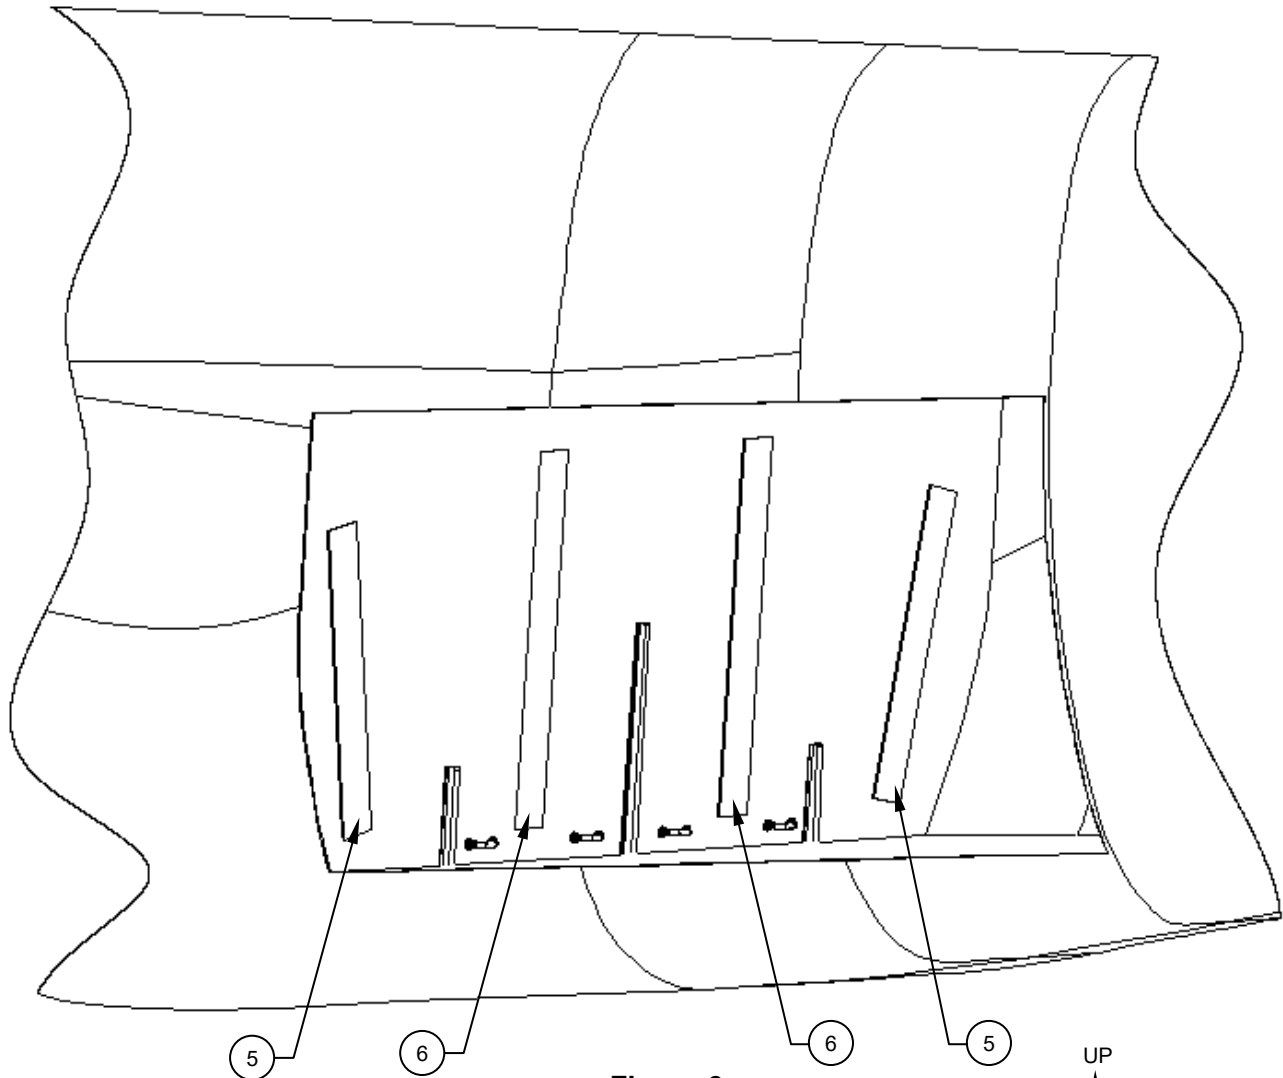

**Figure 2**
3. With the panel lined up use the pre-cut .25 holes and a felt pen to mark out the locations for the Velcro, Details (Items 5 & 6) and remove the panel (Item 1). Reference Figure 2.